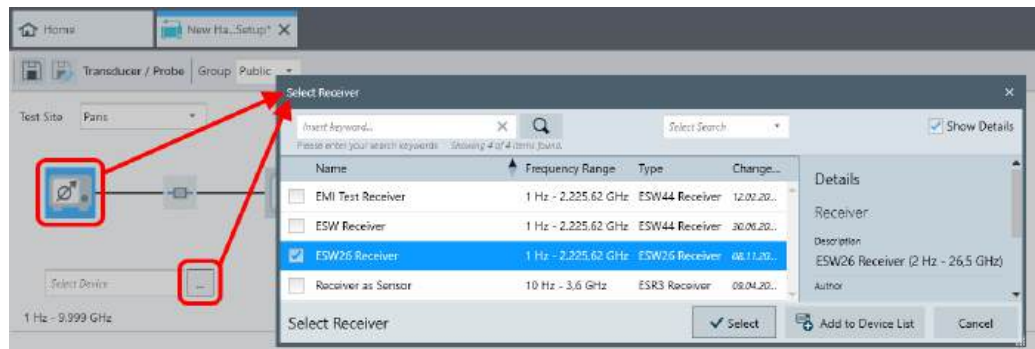

Figure 4-129: Selecting a device, here a receiver in an EMI test setup
A central building block of each hardware setup dialog is the interactive setup diagram for each frequency range. The diagram shows the hardware setup with all its lab devices, transducers and connecting signal paths (jointly called devices). Figure 4-129 shows how to select a device for integrating it into the hardware setup diagram and for configuring it.
- If a device is *not yet selected*, the buttons in the **large** and **small** red square in Figure 4-129 both open the "Select ..." dialog.
- If the device or signal path has not yet been selected (chosen), the "Select ..." dialog (shown in Figure 4-129) is opened for selecting the device.
- If the device or signal path is already selected (chosen), its name is shown in the "Select Device" field (4), where you can change the selection.